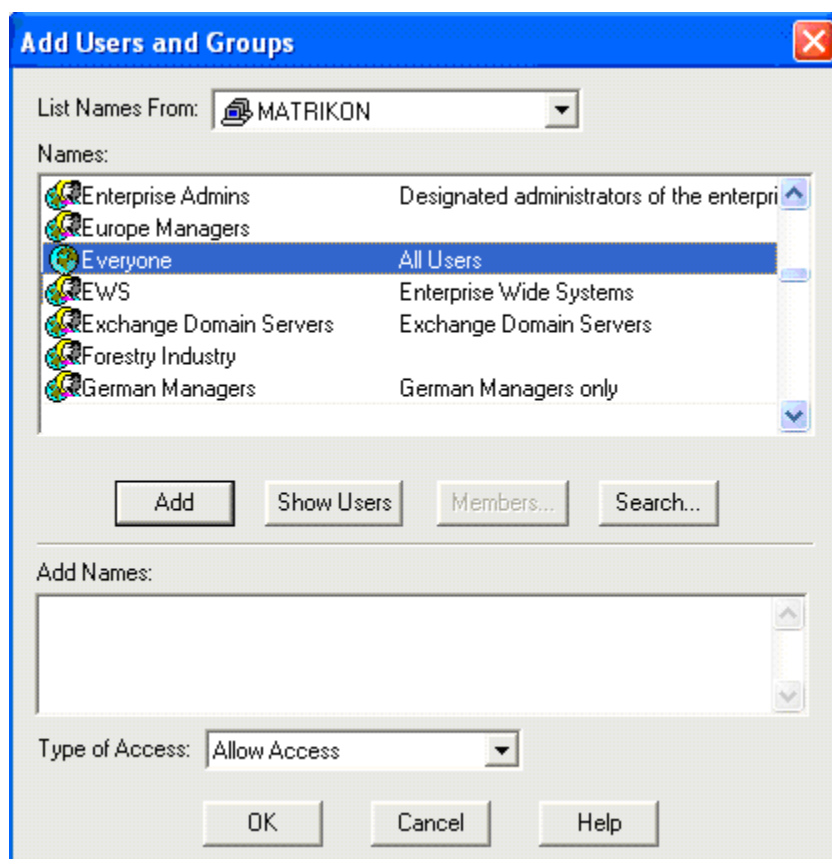

Figure 74 - Add Users and Groups Window
10. The **Add Users and Groups** window (Figure 74) appears.